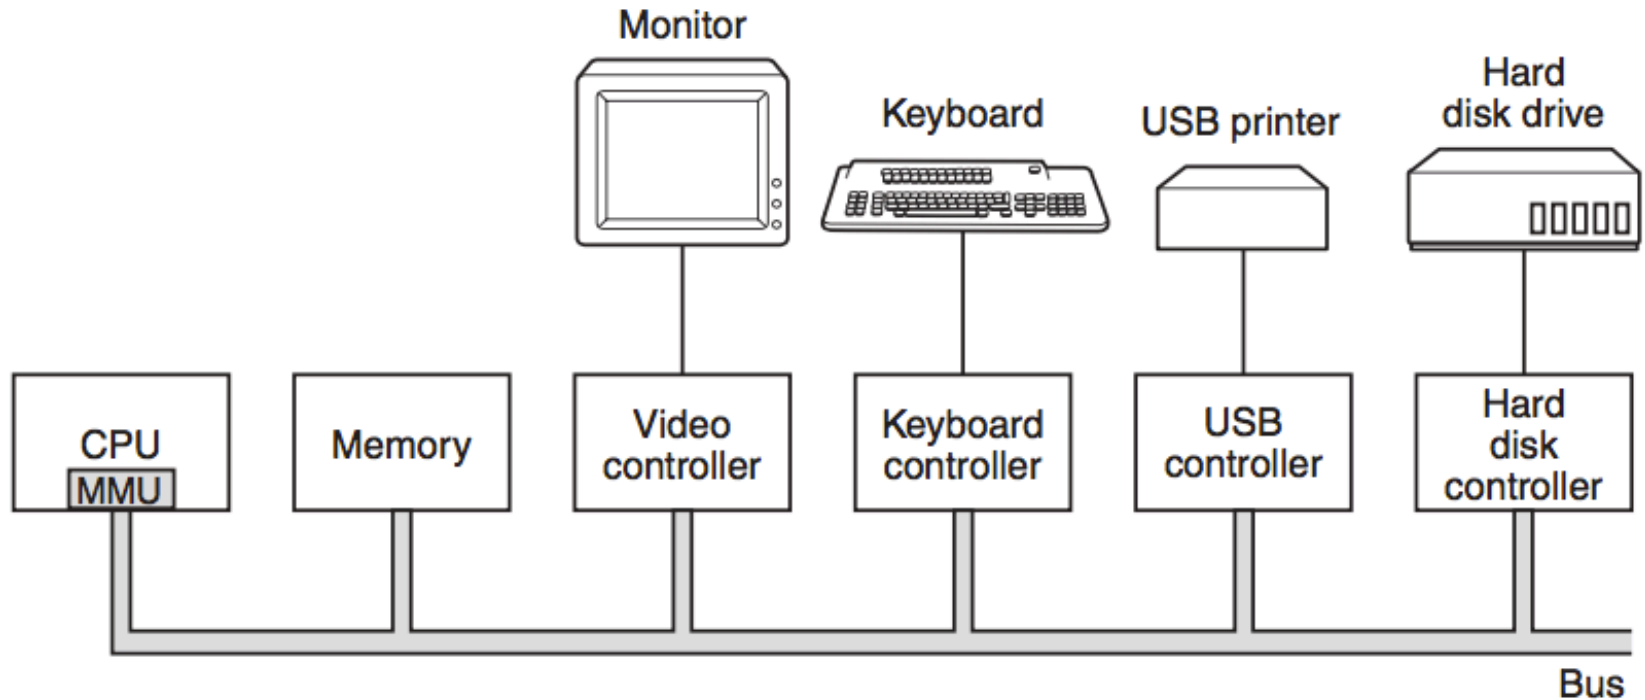

Figure 1-6. Some of the components of a simple PC
- How does that affect the model of Fig. 1-6?